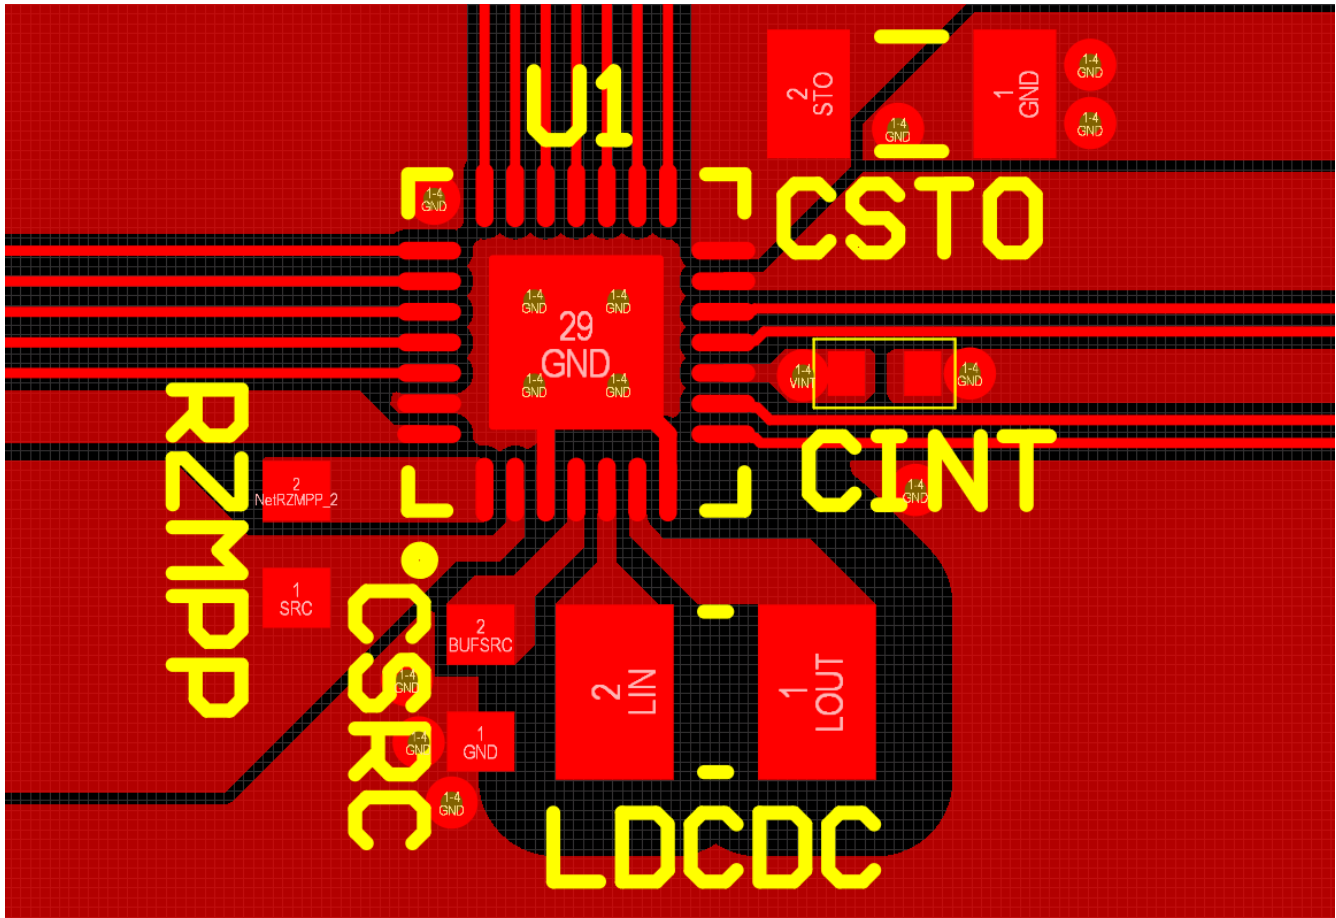

Figure 17: Layout Example for the AEM10300 and its Passive Components
- The switching nodes (LIN and LOUT) must be kept as short as possible, with minimal track resistance and minimal track capacitance. Low resistance is obtained by keeping track length as short as possible and track width as large as possible between L_{DCDC} and the AEM10300 pins. Minimal capacitance is obtained by keeping distance between LIN/LOUT and other signals. We recommend removing the ground plane, the power plane and the bottom layer ground pour under L_{DCDC} footprint, as well as adding distance between LIN/LOUT and the top ground pour, as shown on Figure 17.